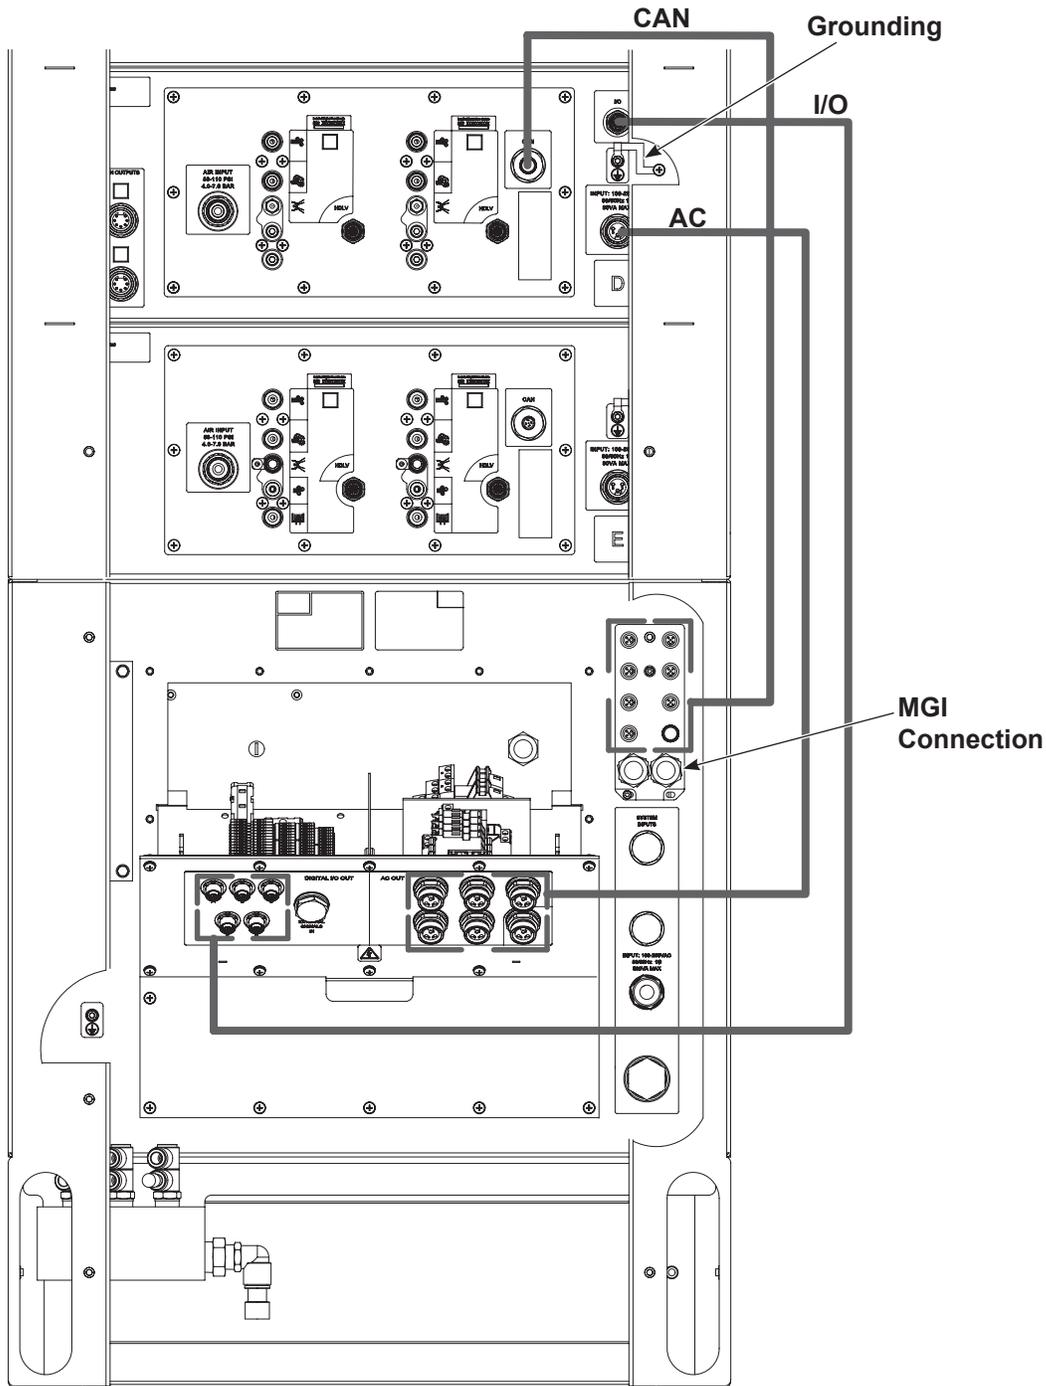

Figure 10-2 Power Distribution Connections
5. See Figure 10-2. Connect the spray controller ground connection to the stack.